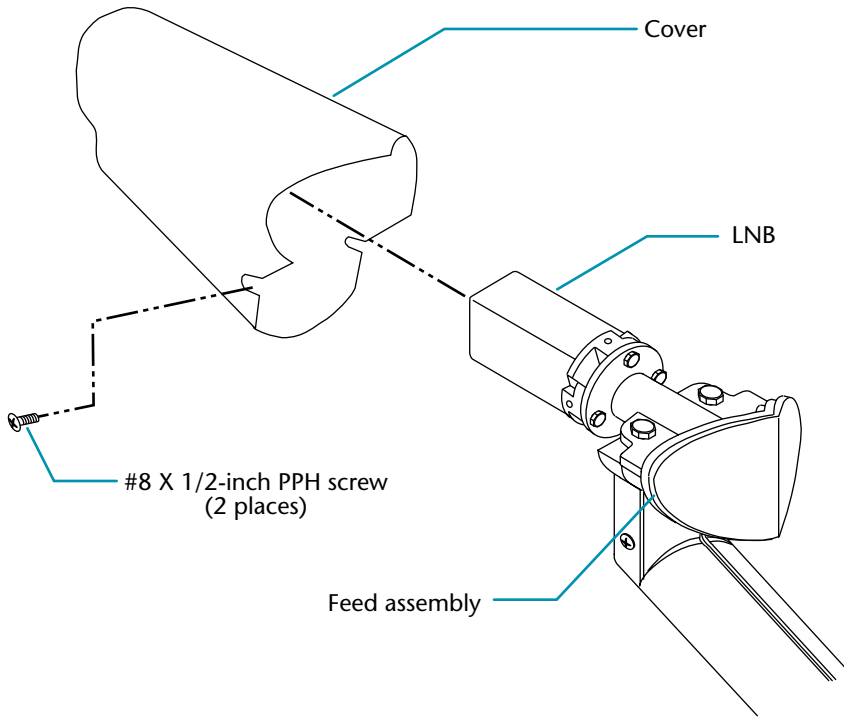

Figure 4-51. Removing cover from feed assembly
1. Using a Phillips screwdriver, remove the two #8 X 1/2-inch PPH screws from the feed assembly cover (see figure 4-51).